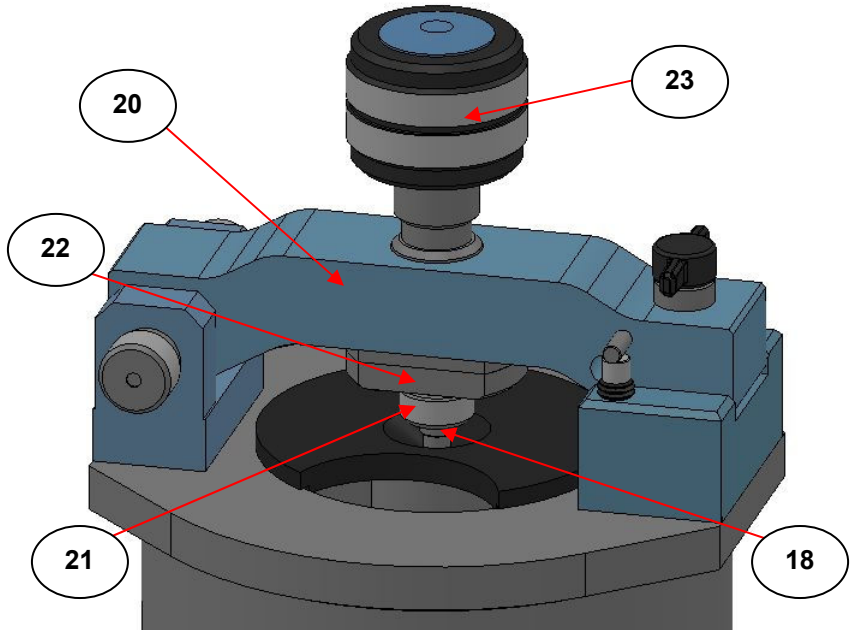

Fig 9. Low Temperature Golden Gate™ Bridge Assembly with Dewar Cap, Flat Anvil and Sapphire Rod in position
2. Cool the dewar (6) by adding small amounts of liquid nitrogen from a small vacuum flask using the funnel (7) provided to ensure that the liquid nitrogen is directed to the bottom of the outer part of the dewar and does not splash into the inner part of the dewar (15). The funnel is inserted into the round hole (8) in the dewar cap (10) and the level of the liquid nitrogen can be viewed through the crescent cut out section (9). Do not fill the level higher than the foam packing sleeve within the outer dewar section (6). Monitor the temperature to see that it does not drop too fast. Never fill the dewar (6) completely.
Note: *During the freezing process, the sample may contract and shrink away from the diamond (1). To re-establish correct contact the long sapphire anvil (18) can be used to apply a small amount of pressure to the frozen sample. The long sapphire anvil (18) is put down into the center part of the dewar (15) through the hole (19) in the dewar cap (10) and the bridge assembly (20) of the Low Temperature Golden Gate™ top plate is closed and locked. A flat anvil (21) is fixed to the clamp part (22) of the bridge assembly (20) and is used to transfer the pressure to the long sapphire anvil (18). The torque screw (23) is turned clockwise to apply sufficient pressure to the solidified sample. (See Figs 9 and 10, for explanation of these parts.)*